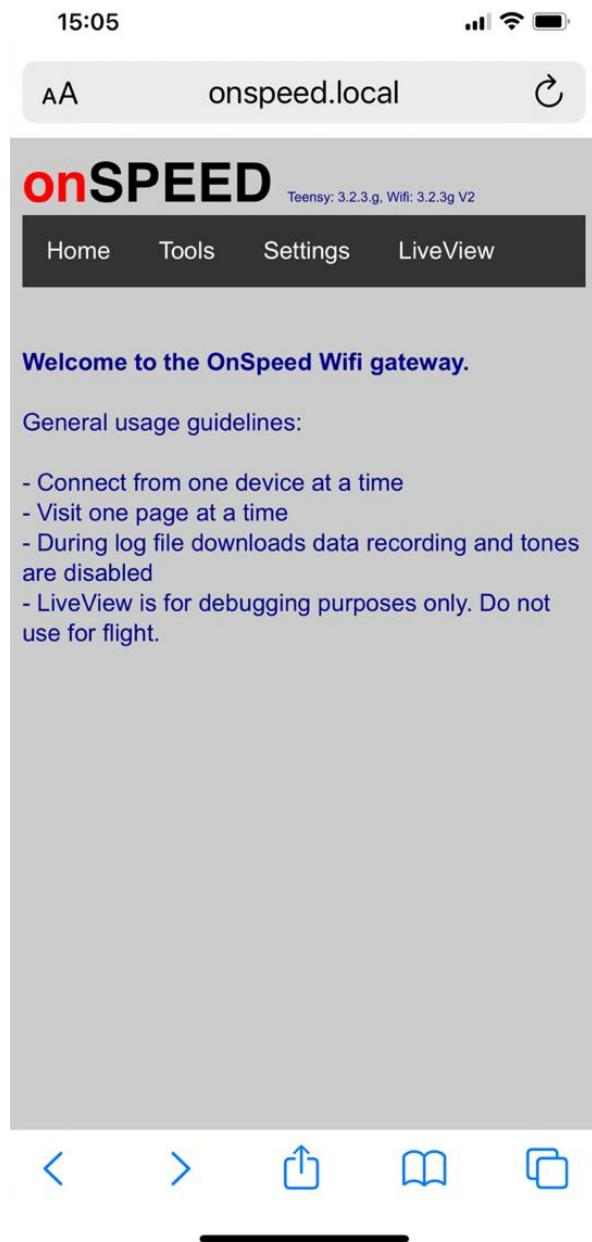

Figure 9. WiFi home page (iPhone).
The WiFi Gateway is the primary method to interface with the ONSPEED system for setup, calibration or changing a setting. The ONSPEED network (SSID) may be accessed using any smart phone, tablet, or laptop any time the system is powered up. Network password is “angleofattack” (one word, all lower case). WiFi signal strength is software adjustable and set for 2dB for normal installation. The WiFi Gateway home page is shown in Figure 9.
*WiFi Gateway Home Page.* Connect to the ONSPEED network using a smart phone, tablet or laptop, password “angleofattack.” Open browser: enter onspeed.local in the address line. The WiFi homepage is shown in Figure 9. The current version of Teensy software and WiFi firmware are shown on the top line. There are four menus available: Home, Tools, Settings and LiveView. This menu bar is always visible. The Home page contains general usage guidelines for navigating the WiFi gateway.